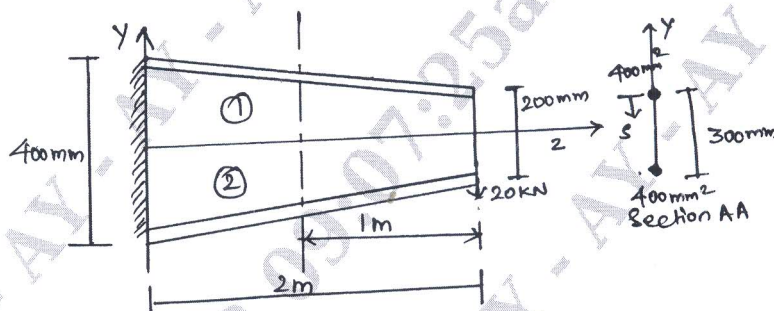

Fig.Q9(a)
- 9 a. Determine the shear flow distribution in the web of the tapered beam shown in Fig.Q9(a), at a section midway along its length. The web of the beam has a thickness of 2mm and is fully effective in resisting direct stress. The beam tapers symmetrically about its horizontal centroidal axis and the cross-sectional area of each flange is 400mm^2 .